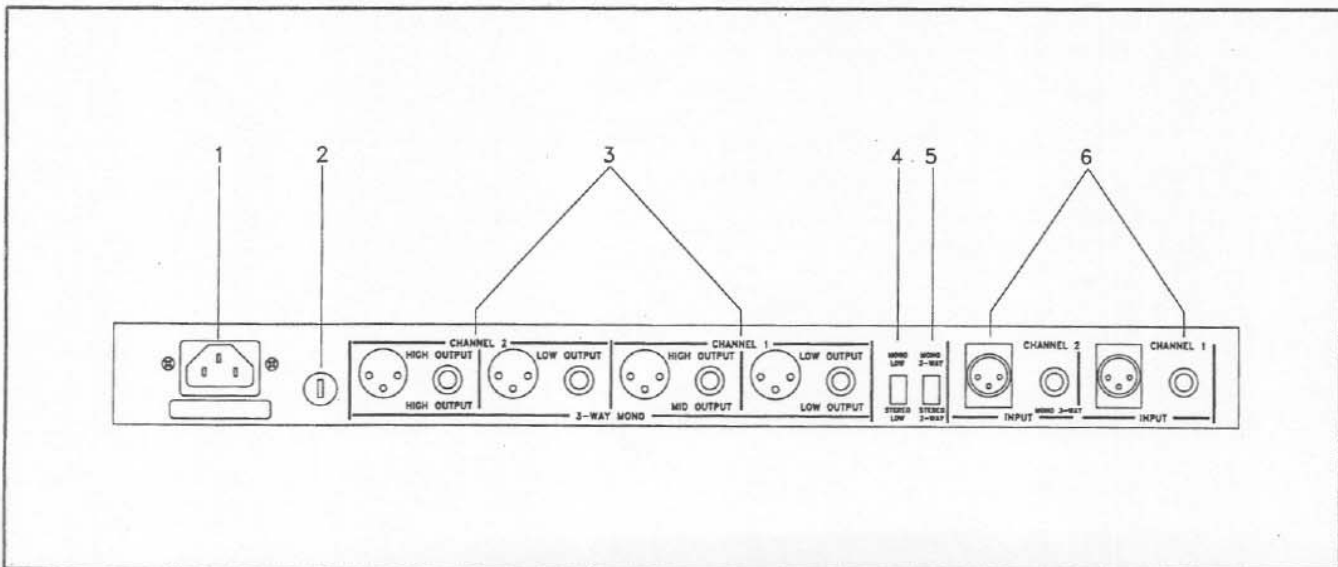

Figure 4: Rear Panel Diagram
3.2 Rear Panel Controls and Connections (Refer to Figure 4.)